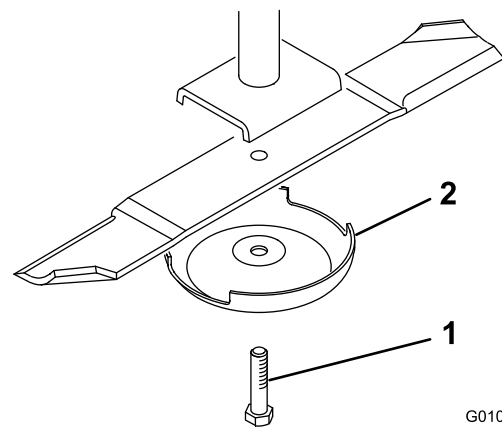

Figure 31
- Grasp the end of the blade using a rag or thickly padded glove. Remove the blade bolt, anti-scalp cup, and blade from the spindle shaft (Figure 31).